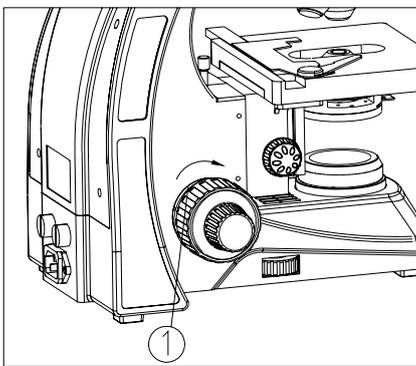

Fig. 11
If the handle is very heavy when focusing or the specimen leaves the focus plane after focusing or the stage declines itself, please adjust the tension adjustment ring① (see Fig. 11).